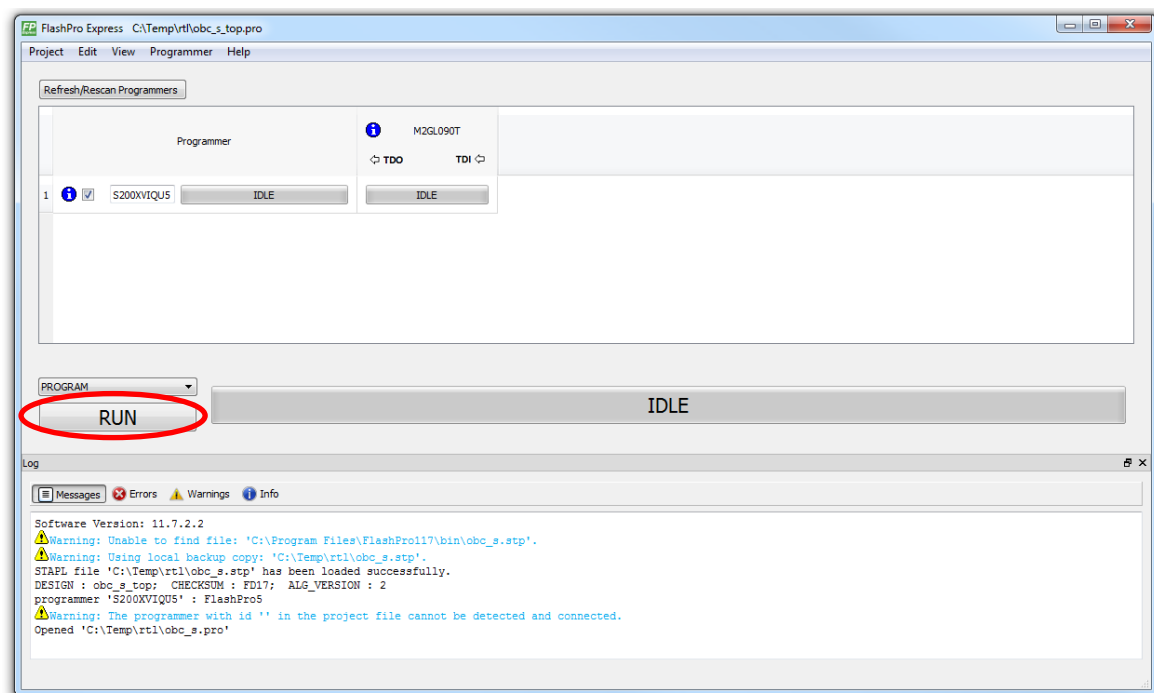

Figure 10-2 - View of FlashPro Express with project loaded.
5. Once the file has loaded (warnings might appear), click RUN (see Figure 10-2). Please note that the connected FlashPro5 programmed ID should be shown.